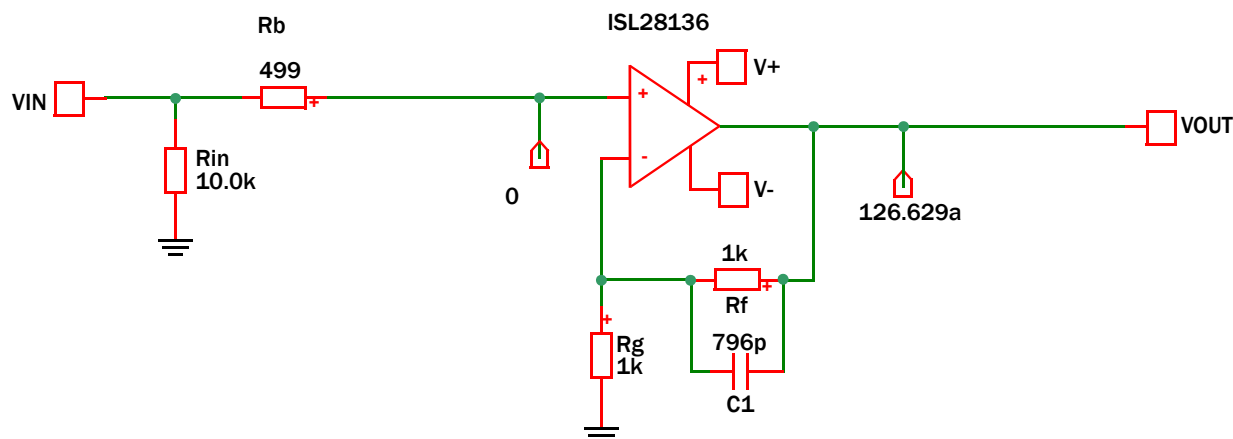

FIGURE 21B. ADDING A FEEDBACK CAPACITOR TO CONTROL THE SMALL SIGNAL BANDWIDTH
Figure 21B shows the 2nd approach of adding a feedback capacitor across the Rf element. This is an extremely common technique that does not work as well as might be expected. This approach essentially transitions the amplifier gain from its low frequency value to a gain of 1. In the example used here that is simply going from a gain of 2 to a gain of 1; not really that much attenuation.
2. It will roll off the noise contributions somewhat. For the non-inverting terms they will reduce down to a gain of 1, while the inverting side terms get continued rolloff as the C1 impedance of Figure 21B continues on down.